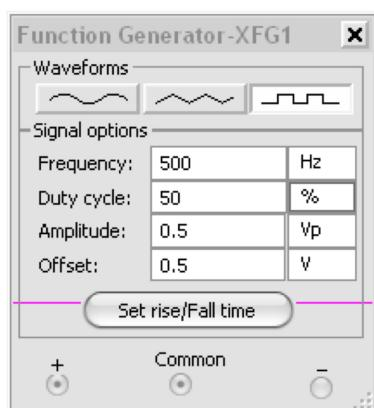

Figure 7: Function Generator Setup
5. Double-click on the function generator and set its values as shown in Figure 7: